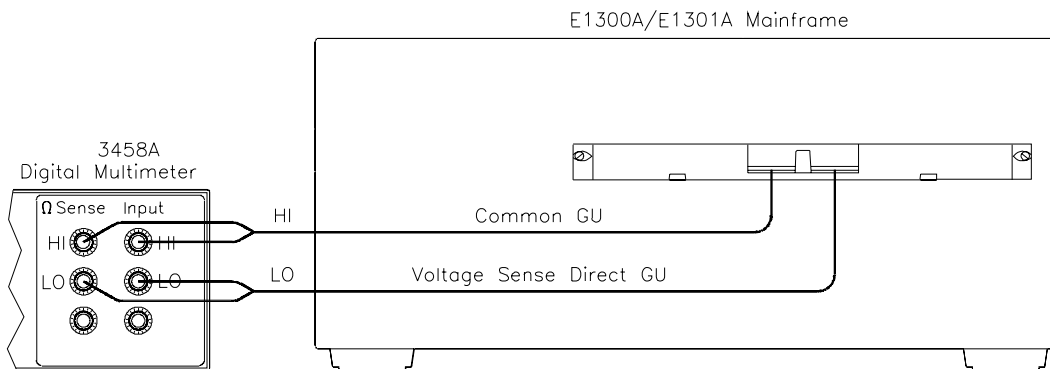

Figure 2-5. Ch 00-07 and 90 GU Measurements Connections
- Connect DMM leads as shown in Figure 2-5